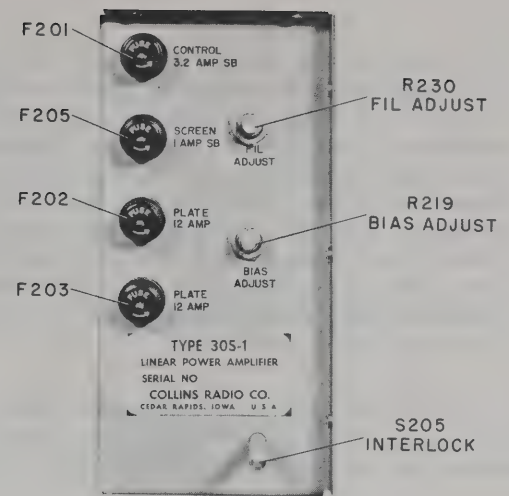

Figure 5. Heater and Bias Adjustment Locations
q. Set filament voltage to 6.0 volts ac with FIL ADJUST. Refer to figure 5.
r. Set MULTIMETER switch (4) to PLATE VOLTAGE.